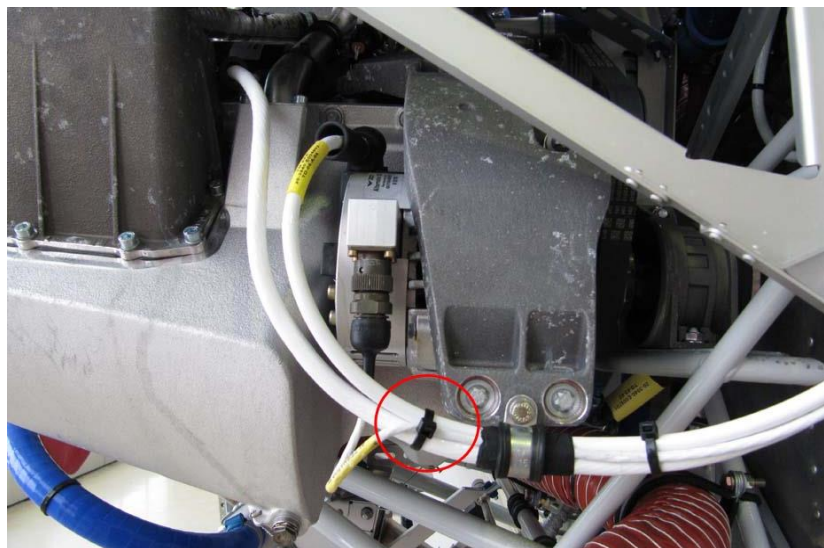

Figure 2
- Bundle the alternator cable, the starter cable and alternator regulator line by one cable tie as shown in figure 2.